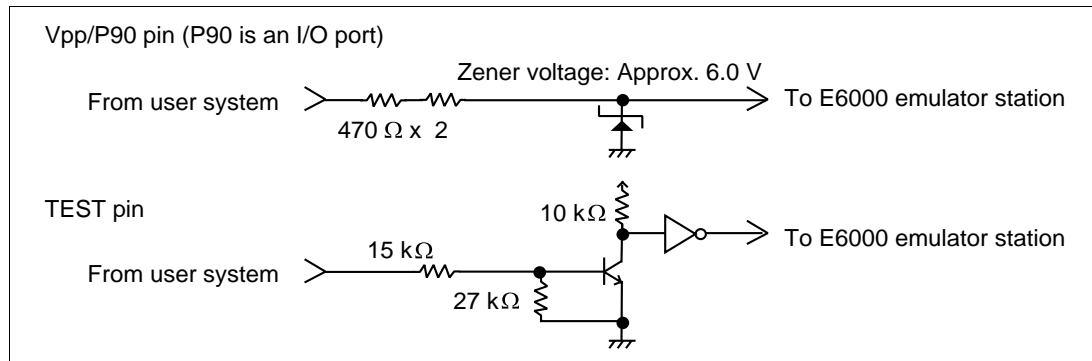

Figure 12 Vpp/P90 and TEST Pin Protection Circuits
6. The flash memory functions of the H8/3644 series are not supported by the emulator. Therefore, do not apply 12 V to Vpp/P90 and TEST pins. If 12 V is applied, the emulator will detect it as the test mode. The Vpp/P90 and TEST pins have circuits for protection against 12-v application, as shown in figure 12.